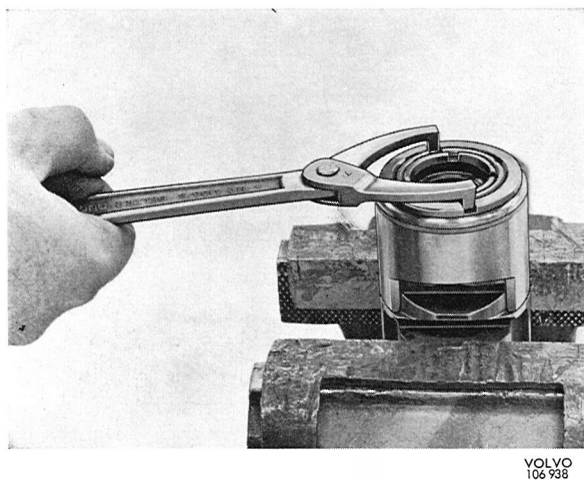

Fig. 6-82. Removing ring
9. Secure the piston between soft vise jaws and the ring nut (27) with a hook spanner, see Fig. 6-82. Remove the sleeve (24) and its ring (25),